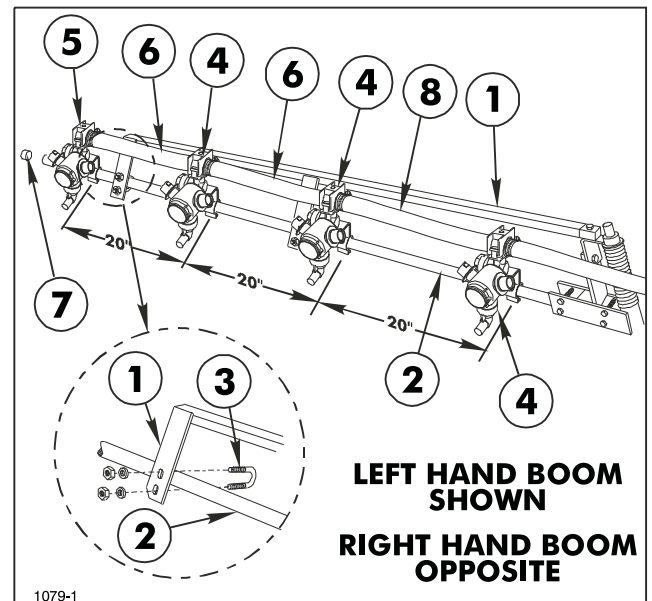

FIG. 6
14. Secure the two (2) plates of the Boom Support Assembly to the Extension Boom Pipe, using two (2) 1/4" U-bolts, four (4) lock nuts and flat washers. (See FIG. 6, page 13)
17. Attach three (3) Double Barb Turret Bodies and one (1) Single Barb Turret Body with Clamp Assemblies on each Extension Boom Pipe as shown in FIG. 6, page 13.
18. Level Nozzles and space 20" apart. Connect the Turret Body Assemblies with 3/4" x 19" Jumper Hoses and a 3/4" x 21" Jumper Hose. Secure with hose clamps. (See FIG. 6, page 13)